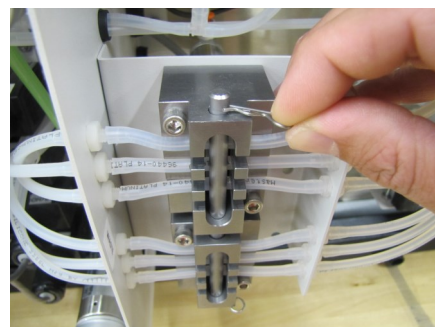

Figure 11
9. Replace the Hitch Cotter Pin in the Pinch Bar, as shown in Figure 11. Repeat steps 3 - 9 with each of the following valves: IDF/SDF Pinch Valves left, IDF/SDF Pinch Valves right, and Waste Pinch Valves.